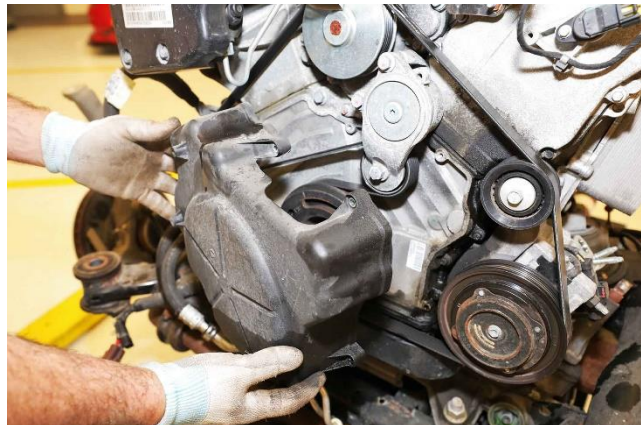

Figure 38 – Vibration Damper Cover
- 81. Remove the bolts and the vibration damper cover (Figure 38).